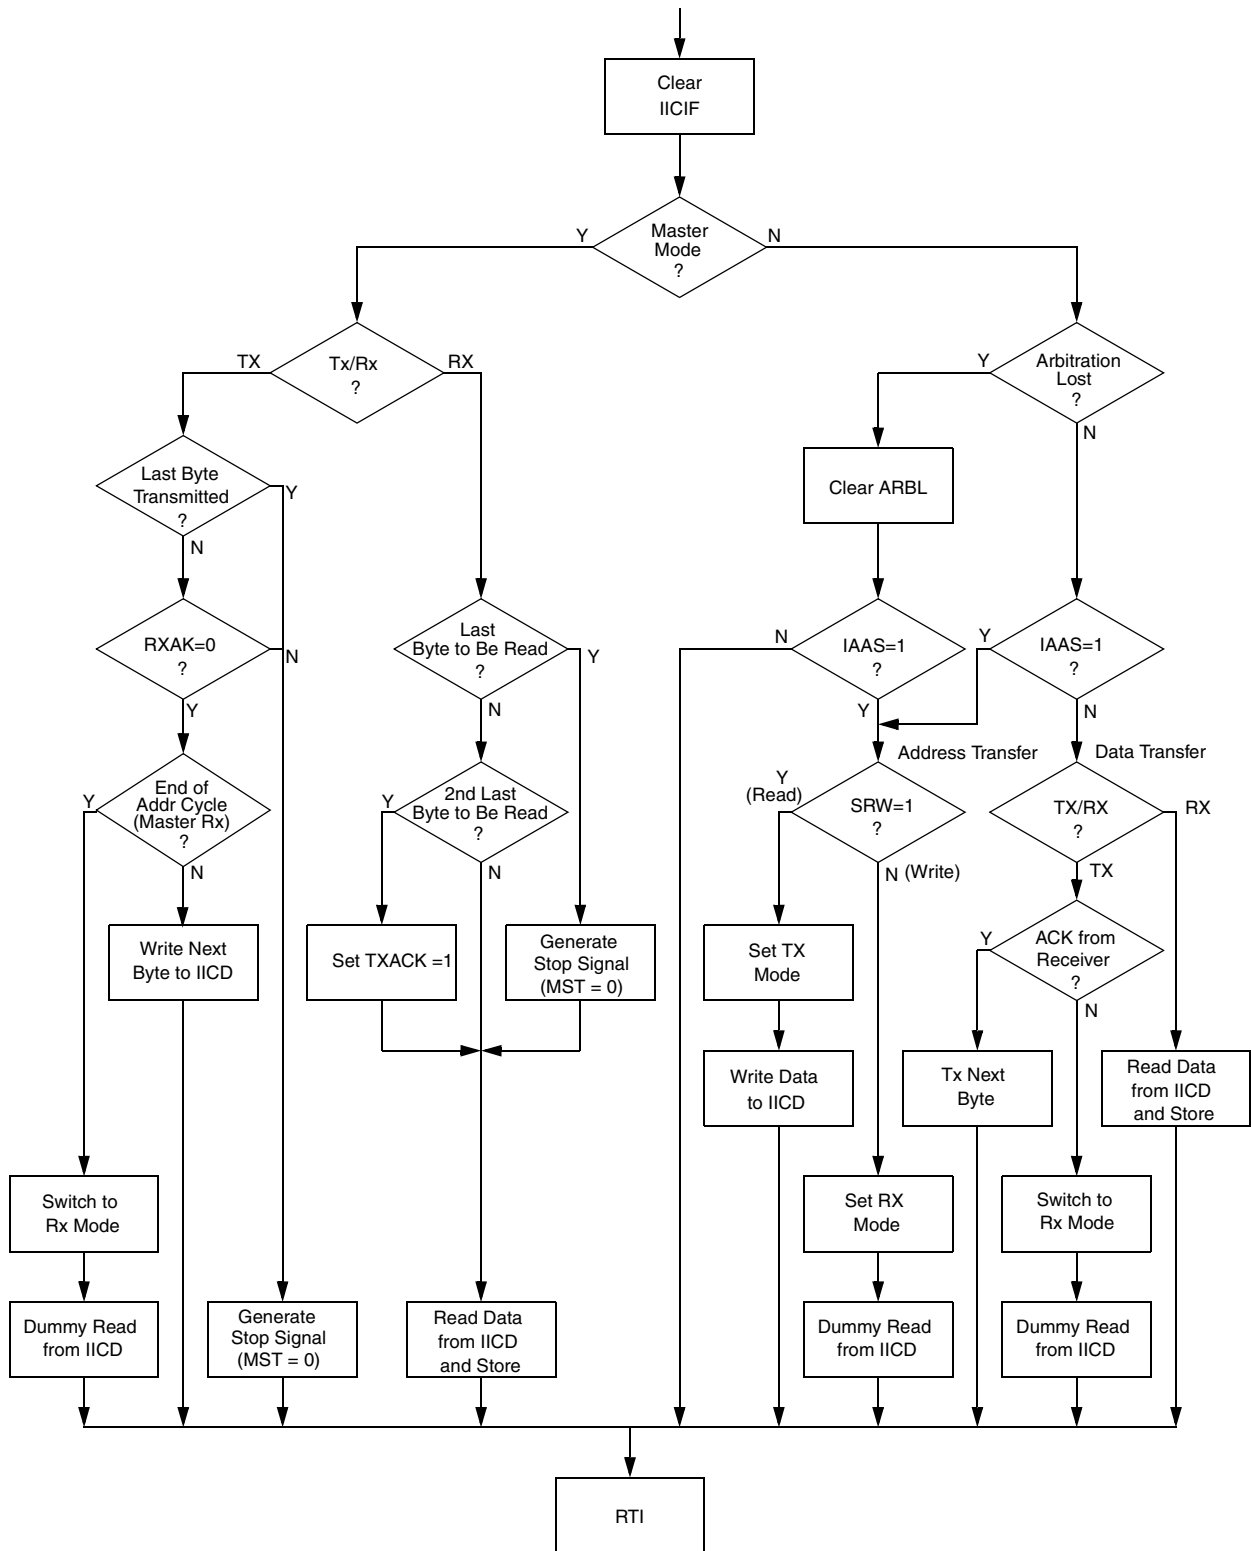

Figure 13-11. Typical IIC Interrupt Routine
4. Initialize RAM variables used to achieve the routine shown in Figure 13-11
The routine shown in Figure 13-11 can handle both master and slave IIC operations. For slave operation, an incoming IIC message that contains the proper address will begin IIC communication. For master operation, communication must be initiated by writing to the IICD register.